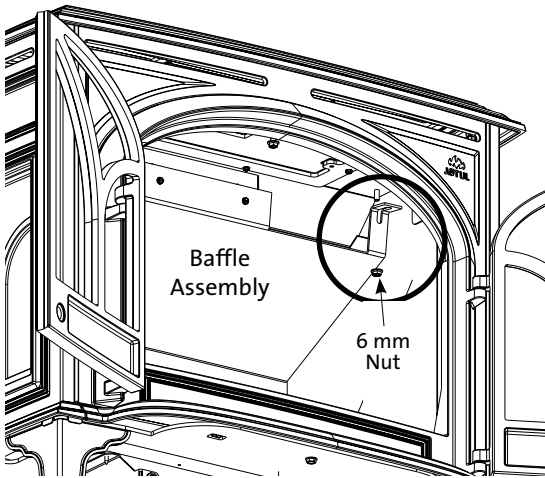

Figure 31.
- 9. Baffle Conversion - Propane conversion only:** Remove two, 6 mm nuts to detach the steel baffle assembly from the firebox. See figs. 31 - 32.